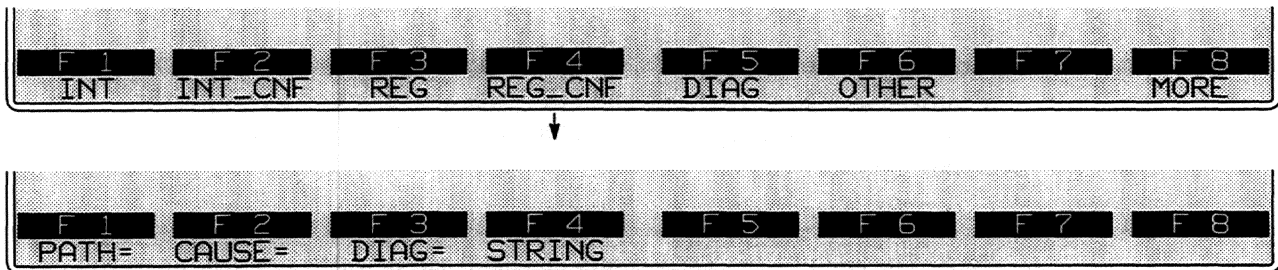
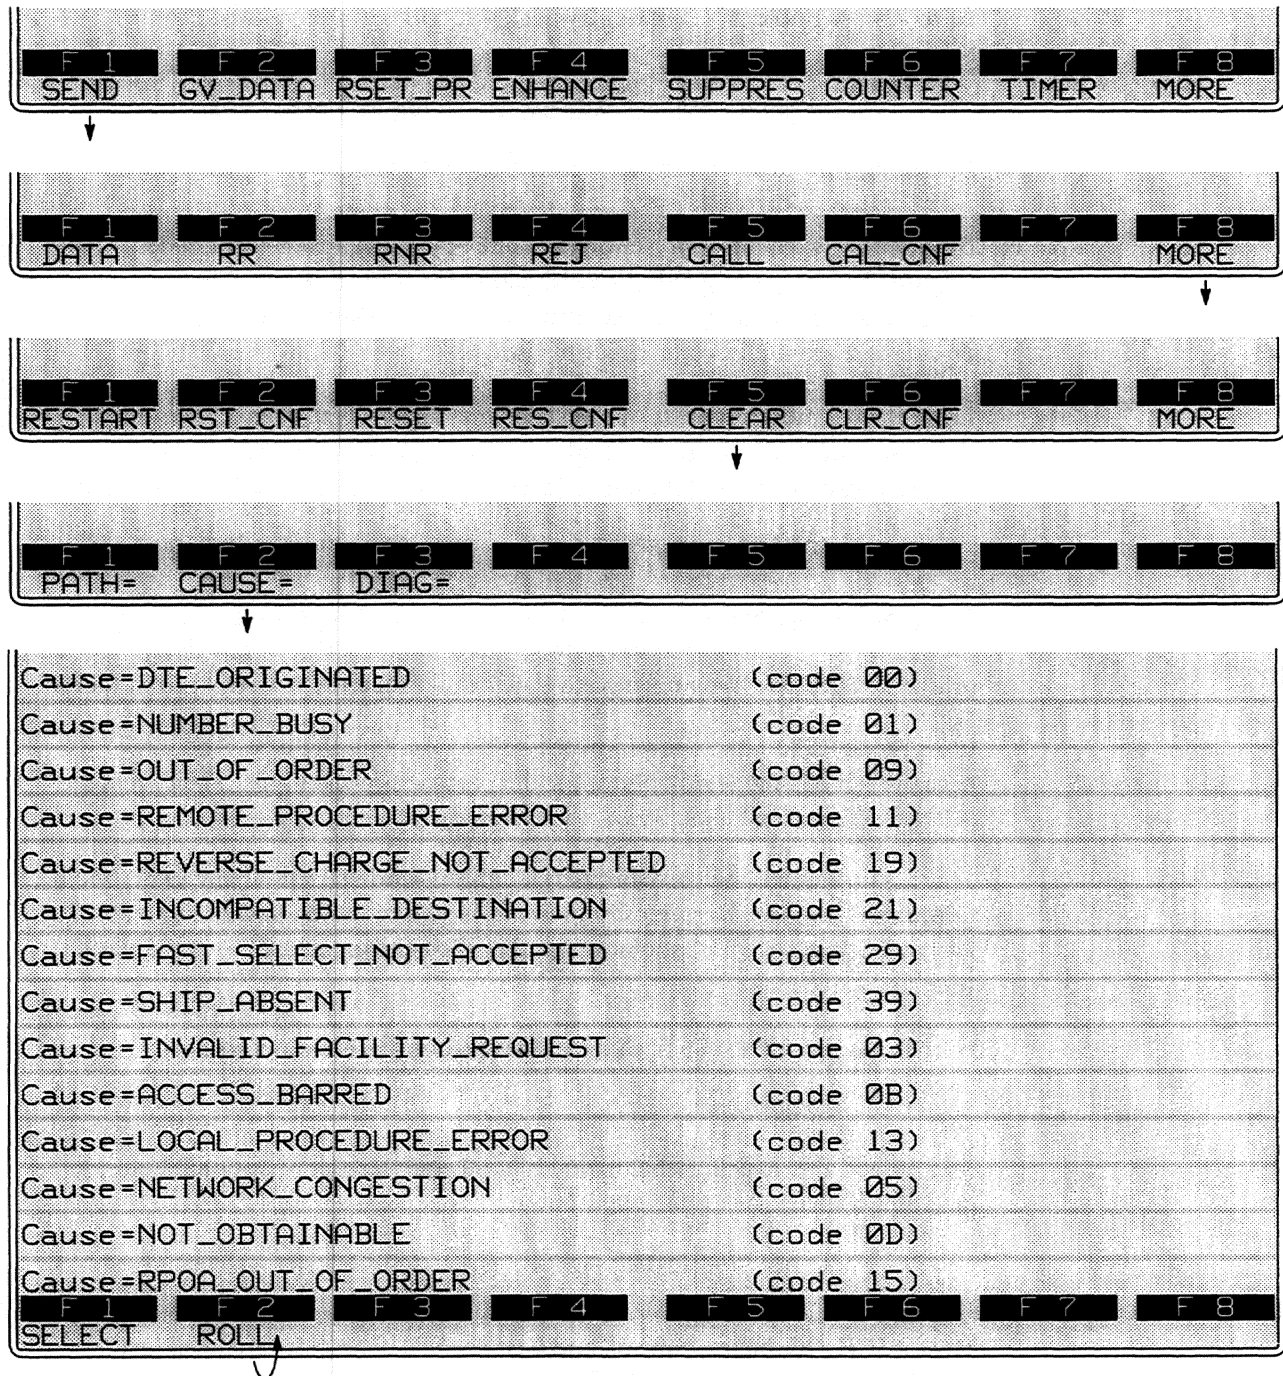

Figure 38-25 Four optional parameters may be added to a SEND REG_CONF action.
Figure 38-29 These causes are available for a *SEND CLEAR* action.
Figure 38-25 shows the softkey rack under Registration Confirm, an unnumbered—packet type with the four possible softkey parameters.
Press the softkey for one of these SEND actions, then press **[F2]**, CAUSE. See Figure 38-29. The names of the causes as well as their hexadecimal values are indicated on the softkey–prompt line near the bottom of the screen.
To specify a particular cause, the user does not have to memorize cause codes or consult a table. Instead, the user presses **[F2]**, ROLL, and repeats the keystroke to cycle through the list of cause names for a given packet type. Figure 38-29 shows the cycle of causes that pertain to Clear Request packets. The user presses **[F1]**, SELECT, when the right cause has “rolled” onto the prompt line. The SELECT softkey writes the current cause onto the spreadsheet screen.
11. *Diagnostic.* Two digits representing the one-byte diagnostic-code field (Figure 38-6) may be added to a SEND action for Restart, Reset, Clear, Diagnostic, and Registration Confirmation packets. Refer to **F3**, DIAG=, in Figure 38-29 or in the lower rack of Figure 38-25.